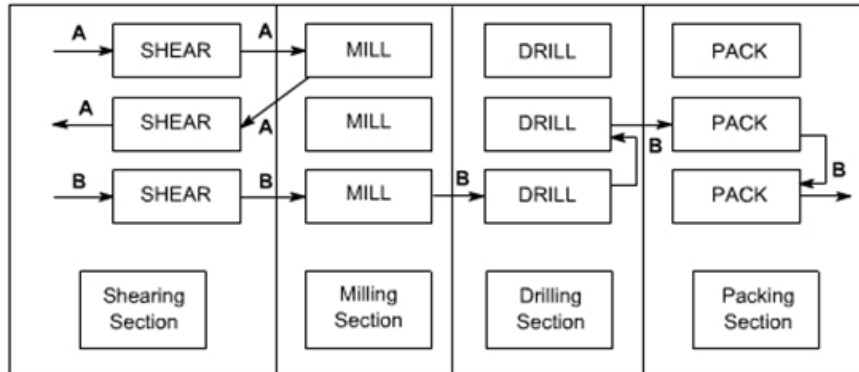

Figure 2: A Pictorial Representation of Process Type of Layout
- A pictorial representation of a process type of layout is given in Figure 2. The advantages and disadvantages are given in Table 2.